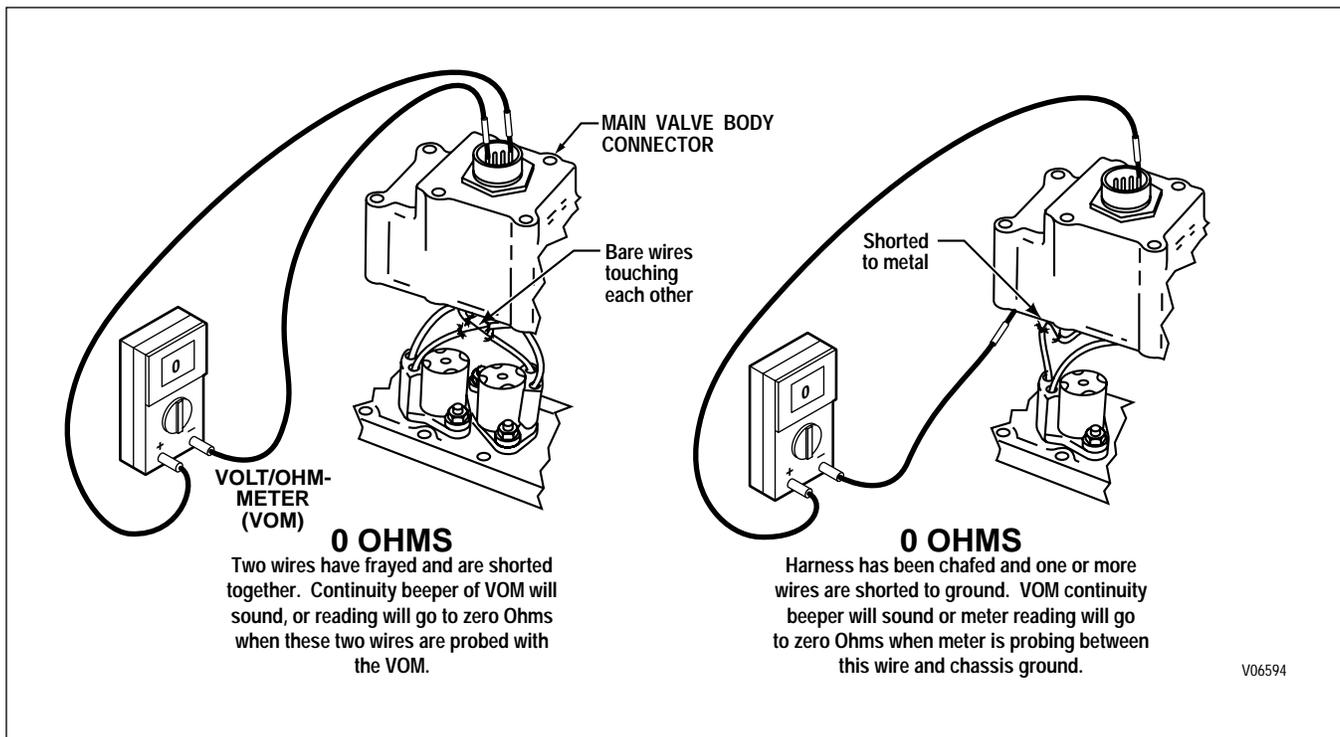

Figure 4-4. Short Between Wires or to Ground
- b. If the resistance check is good, check the harness for shorts between wires and to ground by performing the following (refer to Figure 4-4):
- (1) At the transmission connector, touch one probe of the VOM to one wire of the circuit being tested and touch the other probe to each terminal in the connector and to chassis ground and the transmission main housing. Do this for both wires in the circuit being tested.
- (2) If the VOM shows zero to low resistance, or the continuity beeper sounds, there is a short between the two points being probed, wire-to-wire or wire-to-ground. An indication of a short may be caused by a splice to the wire being checked. Check the wiring diagram in Appendix G for splice locations. If the short is not a splice, then isolate and repair the short.